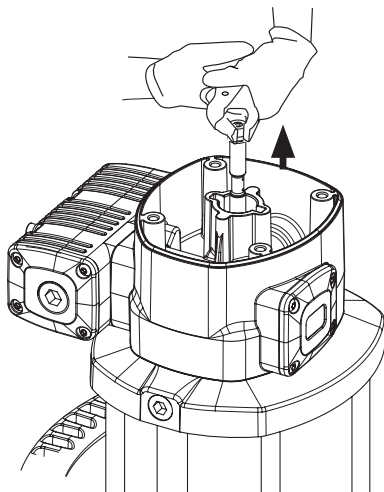
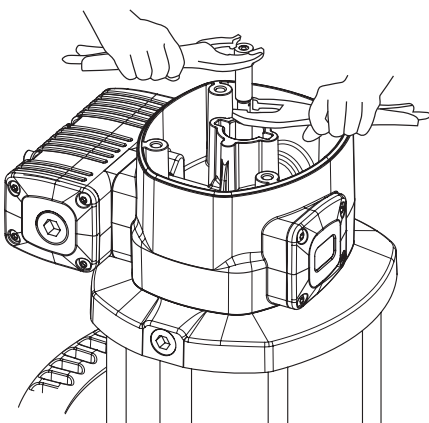

Fig. 5a
Fig. 5b
1. Unscrew the bolts (2) and remove the cap (3).
2. Unscrew the sensor sleeve (4).
3. With a manual clamp on the nut (5), pull the rod (39) outwards until its central recess appears (Fig. 5a). Then, with another manual clamp, grab the rod (39) on said recess to prevent sealing surface to be damaged, and unscrew the nut (5) (Fig. 5b).
4. Remove o-ring (6) and ring (7), and replace them with new ones later.
5. Unscrew the bolts (55). Pull the motor body (13) outwards to free it along with bridle (36).
6. Take away the gasket (9) and replace its seals (8) and (10).
7. Unscrew the bolts (37) and split the motor (13) from the bridle (36). Take away the washer (32) and replace the seal (8).
8. Take away the cylinder (50) while carefully holding the air piston (46). Replace the piston seal (45).
9. Reassemble in reverse order, applying thread locker in screws (37), nut (5) and sensor sleeve (4).